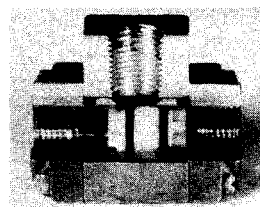

FIGURE 9-4. — SHUTTLE VALVE
Shuttle Valve (Figure 9-4) — Also known as a double check valve, the shuttle valve is a device which will take two (2) supply signals and allow the one with the highest pressure to pass through. The shuttle valve is used in the Low Demand control system with reservoir blowdown to allow the control to work from both the oil reservoir and the plant air system side of check valve.